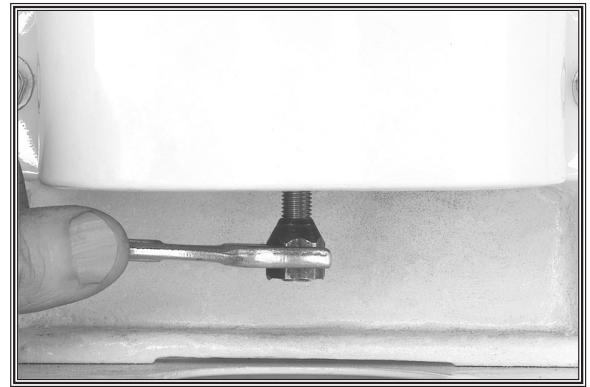

Figure 38. Removing taper nut from drawbar.
4. Loosen and remove the taper nut (see **Figure 38**) while holding the top of the spindle with a wrench.